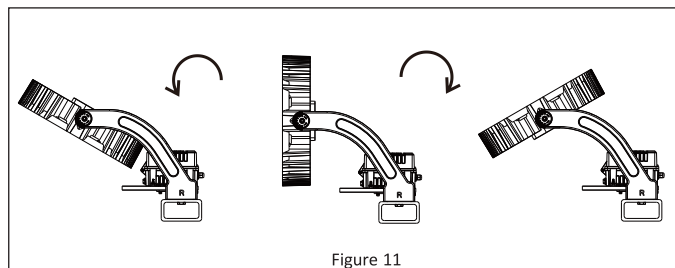

Figure 11
5. The LED array can now be aimed to achieve optimal light coverage. **See Figure 11.**